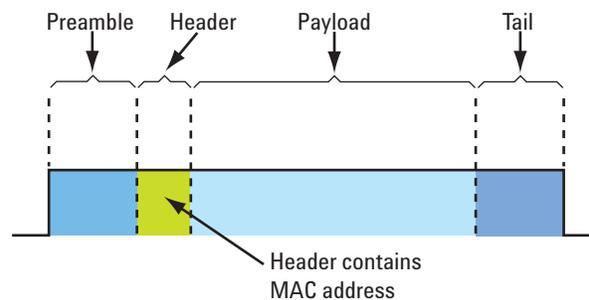

Figure 18. MAC address in WLAN signal header
- The main test consideration is when to program the WLAN device MAC address. Programming the device MAC address at the beginning of the test process would mean that each device has a unique MAC address during the test process. Using unique MAC addresses would then require that each device has a unique arbitrary waveform file for receiver testing as the MAC address is held in the header of the waveform file. (See Figure 18.) For this reason, it is recommended to use a generic MAC address for the test duration, for example all zeros, and then program the DUT MAC address at the end of the test process.